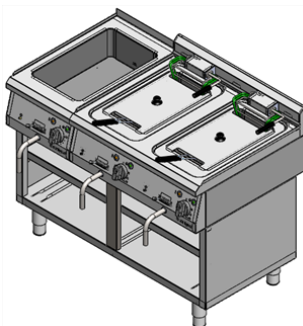

Figure 4. Example setting of adjustable units (single bain-maries 9720000 and double fryer 9726000) on neutral open base (9704300)
- Adjust the adjustable unit and immobilize it by fixing the base together with the adjustable unit, as shown in Figure 4. To achieve it: